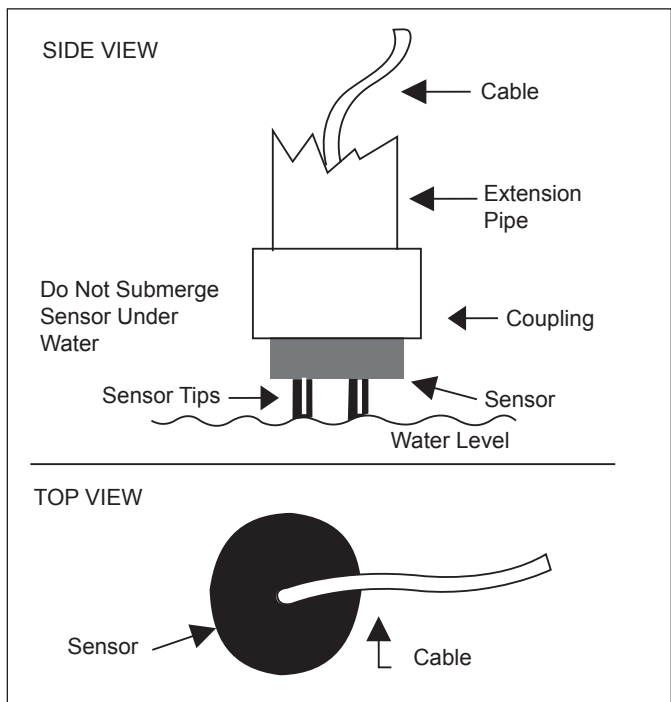

Figure 14. Slip Sensor Installation
- b. Mount the slip sensor vertically in a static pipe. Glue the sensor to the coupling. See Figures 14 and 16.